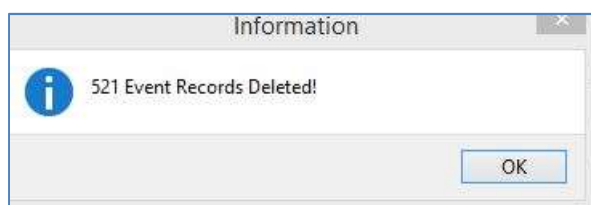

Figure 57
- The total number of events deleted will be displayed (**Figure 57**)